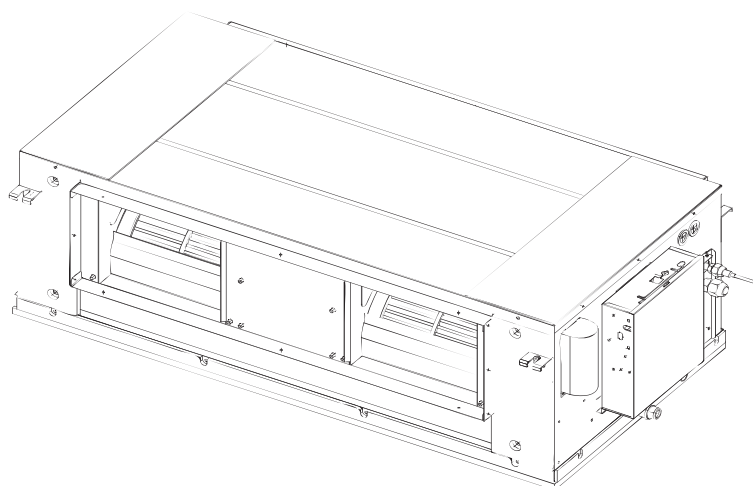

Fig.4-15
1. The whole unit status show as Fig.4-15